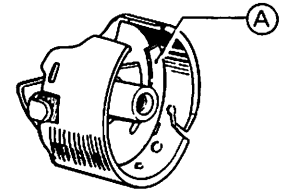

Fig. 31
(2) Use the bobbin case which has idle running prevention spring (A) at the bottom as shown in Fig. 31.